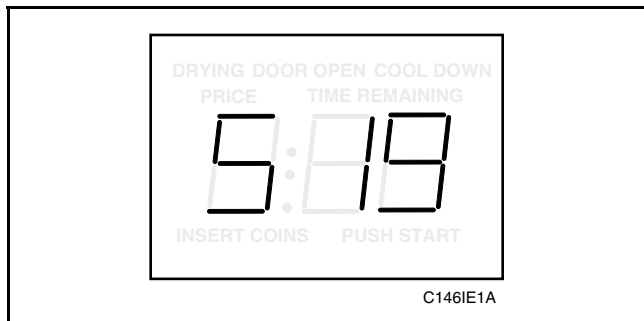

Figure 91
2. While pressing and holding the HIGH TEMP pad with one hand, press the MED TEMP pad with the other hand. Programmable option number 1, (Audio Signal “SIg”), will appear in the VFD, *Figure 91*.